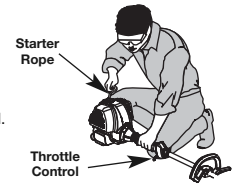

Fig. 12
WARNING: Avoid accidental starting. Make sure you are in the starting position when pulling the starter rope (Fig. 12). To avoid serious injury, the operator and unit must be in a stable position while starting.
5. Crouch in the starting position (Fig. 12). Press the throttle lockout in and squeeze the throttle control lever. Pull the starter rope 5 times.